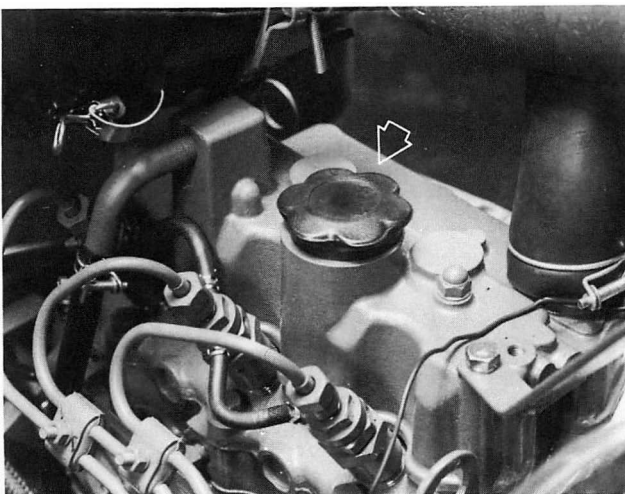

Figure 33 — Engine Oil Filler Cap
2. If the oil level is low, remove the filler cap, Figure 33, and add oil to the engine through the filler hole to bring the oil level between the marks on the dipstick. Be careful not to overfill.